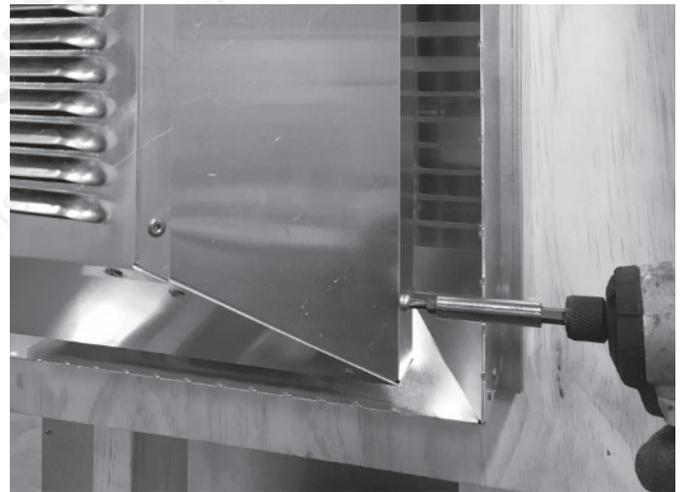

Figure 7.21
- Reattach louvered cover, (8) screws. See Figure 7.21.